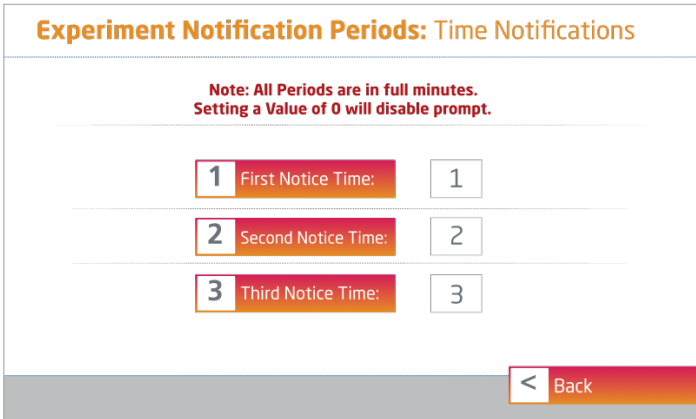

Figure 17: MPVS Duo System Settings: Set Catheter Position Timing: Notifications
- 3. Set Catheter Position Timing:** This is a series of customizable reminders that prompt users to enter “Experiment Mode” in the “New PV Loop Protocol” workflow, as shown in Figure 17. It is recommended to enter “Experiment Mode” once catheter positioning is optimized and stable. When this mode is selected, the following screen will offer customization of the time notifications.